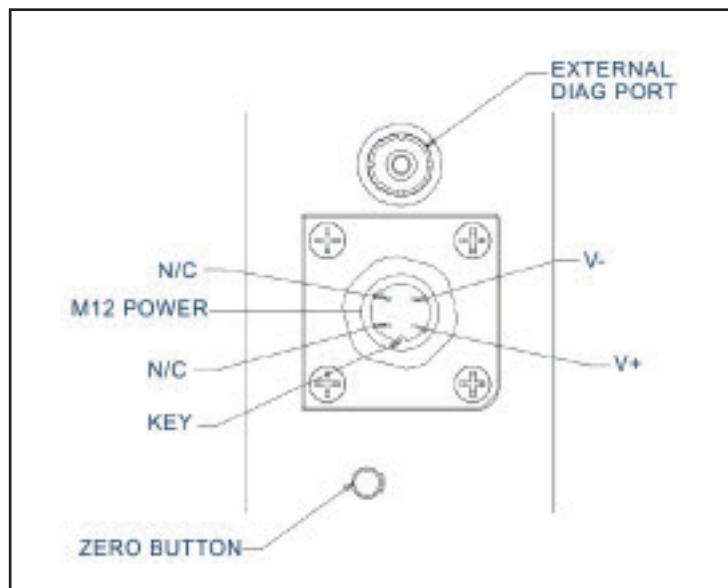

Figure 4-3 SLAMF Hazardous Area device side view with M12 Power connector
- 2.5 mm female jack for RS485 diagnostic port, which is located either under the top cover (SLAMF IP-66 only versions) or under the access screw on the inlet side of the device, just above the M12 power connection (shown in Figure 4-3).
- 4 pin M12 threaded Male (Euro Lock) Connector for power labeled "PWR" (figure 4-3).